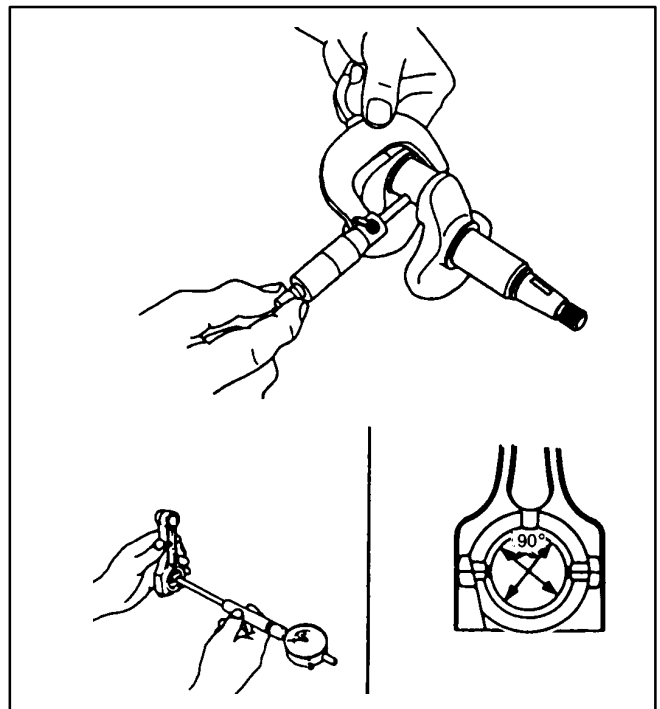

FIGURE 9-30. CRANK PIN AND CONNECTING ROD CLEARANCE
1. Measure the crank pin OD and the connecting rod big end bore with a micrometer, and calculate the difference (Figure 9-30).